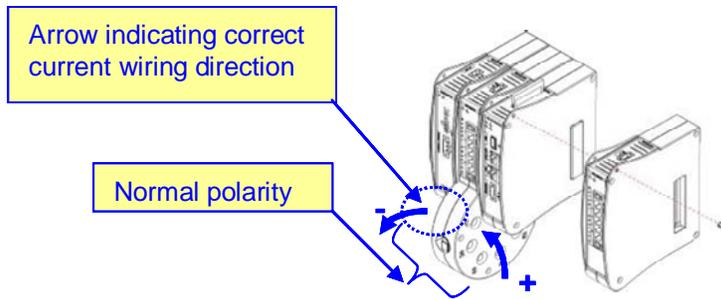

Figure 15: Current transformer conductor inserted correctly through the Elspec G440
Both current direction and voltage polarity is a matter of importance in measuring electrical parameters. The Elspec G4400 series instrument must be installed properly with the current transformer wires directed correctly through the instrument as shown in Figure 15. When this is not the case, it is possible to configure the instrument through the software to reverse the direction mathematically.
- PT/CT Configuration:** This page accepts the required transformation values for measuring the electrical system. The Elspec G4400 series instruments can monitor all AC voltages and all currents. This is achieved by using measuring transformers. The CT or Current Transformer is comprised of a coil fitted around the current carrying conductor with the secondary conductors designed to carry no more than 5 amperes (in some cases 1 ampere secondary conductors are used). A CT designed for a 500A load with a 5A secondary will have a CT ratio of 500:5. The PT or Potential Transformer operates under a parallel methodology; a voltage transformer is designed to transform the rated network voltage to a secondary output with a typical value of 110V. For example, a PT for a 22000V network will have a PT ratio of 22000:110. Figure 15 illustrates the interface. Each value has a separate page. PT phase primary is input on its own page, as is the PT phase secondary. The Elspec G4400 supports different inputs for the phase and for the neutral lines.